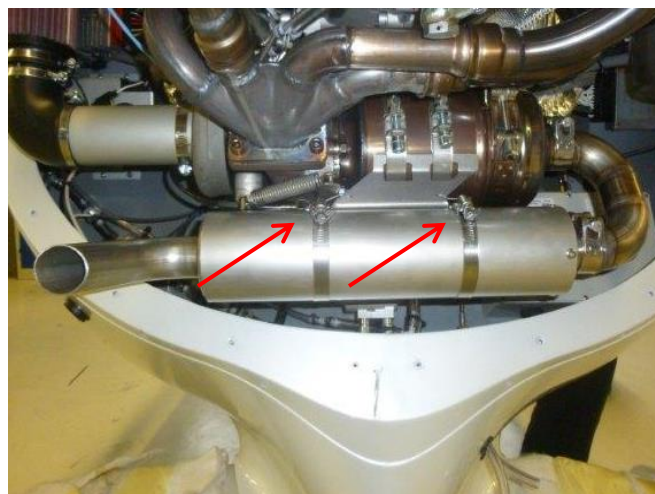

Fig.2: Hose clamps
- 4 Remove the hose clamps and keep them for the installation procedure (Fig.2). Inspect the hose clamps for possible damage.